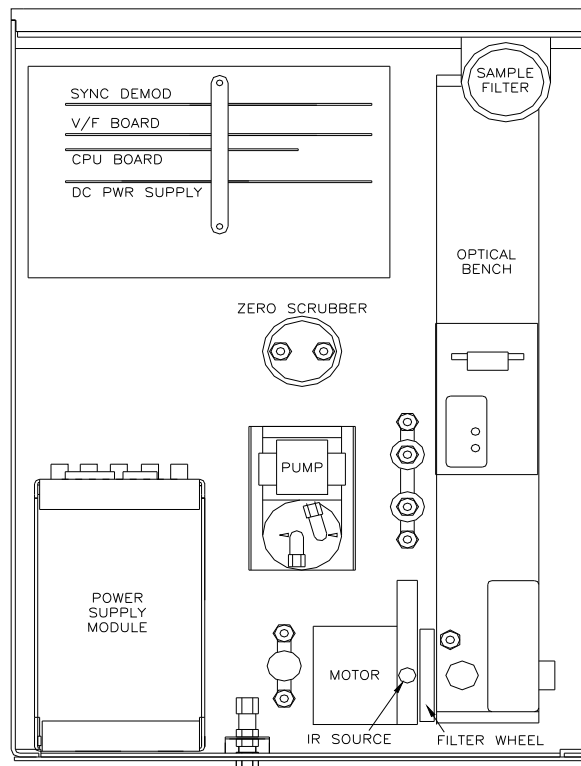

FIGURE 2
3. Locate the Synchronous motor (Figure 2); disconnect the connector from the motor to the wiring harness. Install the KIT000149 (60HZ capacitor) between the motor and the wiring harness.